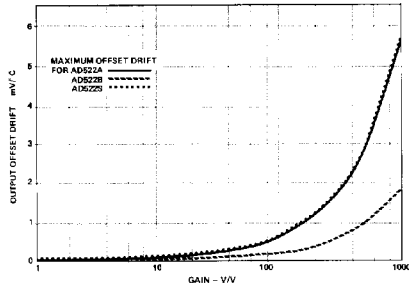

Figure 3. Output Offset Drift (RTO) vs. Gain
vs. Temperature, max (see Fig. 3)
**Offset Voltage and Current Drift:** The AD522 is available in four drift selections. Figure 3 is a graph of maximum RTO offset voltage drift vs. gain for all versions. Errors caused by offset voltage drift can thus be determined for any gain. Offset current drift will cause a voltage error equal to the product of the offset current drift and the source impedance unbalance.